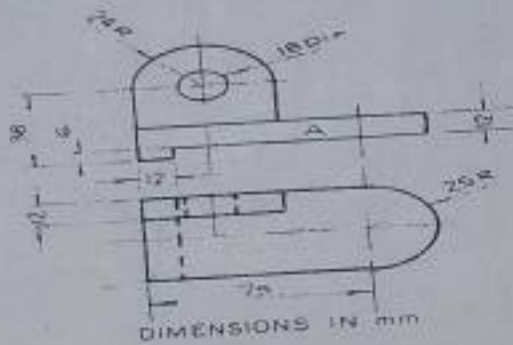

Figure 3
4. Figure 3 shows two views of a cast iron hinge block. Make an oblique drawing of this object, with face A towards you, omitting hidden detail.